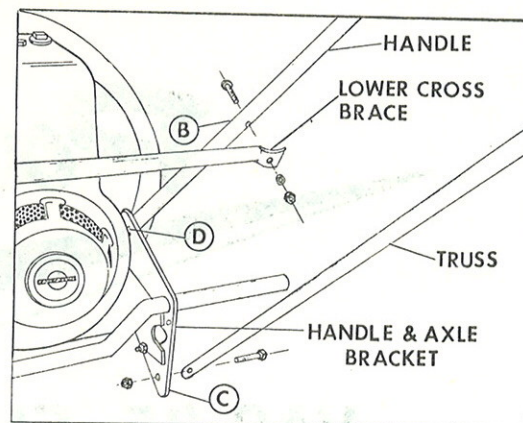

Figure 2
4. Assemble the lower cross brace on the bottom of the two handles Ref. 11, Fig. 7, with the bolts and nuts (Ref. 32, 33 & 34, Fig. 7) as shown at point "B," Fig. 2. **DO NOT TIGHTEN.**
5. Assemble the two trusses to bottom holes of the right and left handle and axle brackets with bolts and nuts (Ref. 31, and 22, Fig. 7) making sure a steel insert (Ref. 26, Fig. 7) is in the end of each truss as shown at point "C," Fig. 2. **DO NOT TIGHTEN.**
6. Assemble the two handles to top holes of the right and left handle and axle brackets with bolts and nuts (Ref. 31 and 22, Fig. 7) making sure a steel insert (Ref. 26, Fig. 7) is in the end of each handle as shown at point "D," Fig. 2. **DO NOT TIGHTEN.**